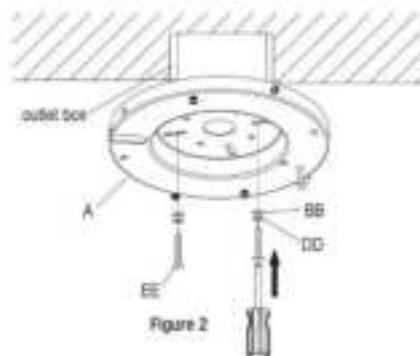

Figure 2
- Align 2pcs screws (EE/GG) through washers and then install screws (EE/GG) through mounting plate (A) onto the outlet box. If outlet box has thread holes, please use the screws - M4x25 (EE), washer - D4(DD) and washer - D15(BB). If outlet box doesn't have thread holes, please use the screws - ST4.8x77 (GG), washer - D5(CC) and washer - D15(BB). Figure 2.